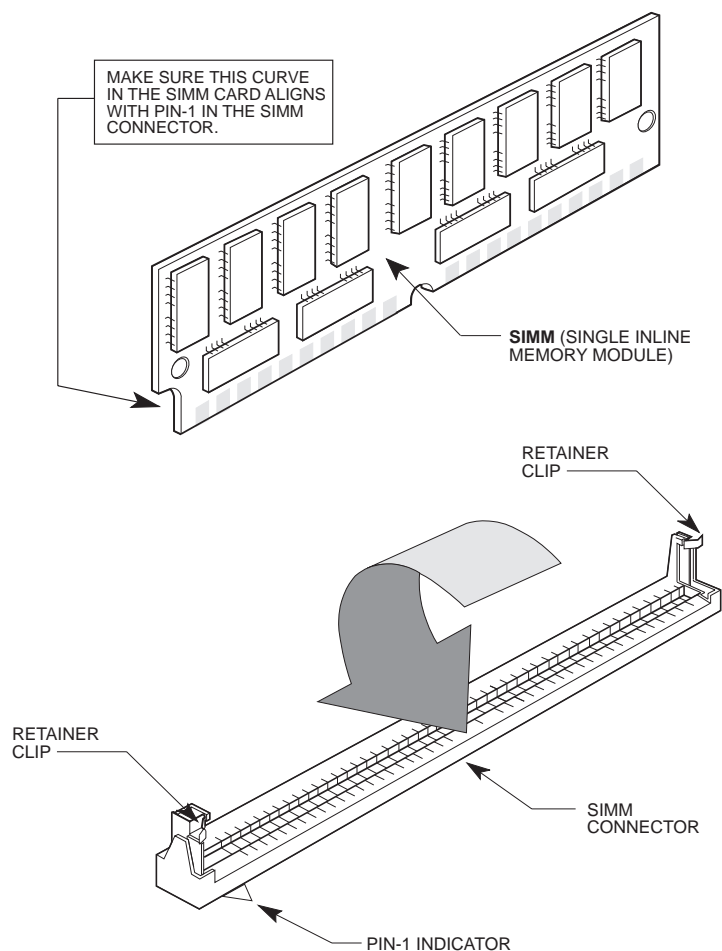

Figure 8: AM-138 SIMM Module Installation
1. Insert one SIMM (the larger if the SIMMs aren't of equal capacity) in connector J10. Align pin-1 at the notched end of the SIMM module with pin-1 on the connector, as in Figure 8.